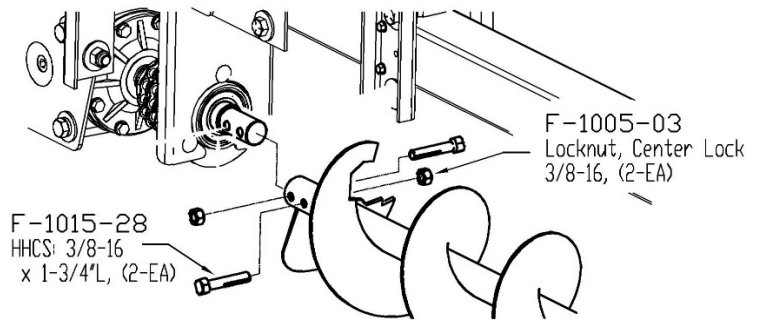

Fig 10.22
- Place the Intake End of the Auger onto the last shaft installed and fasten as shown in Fig 10.22.